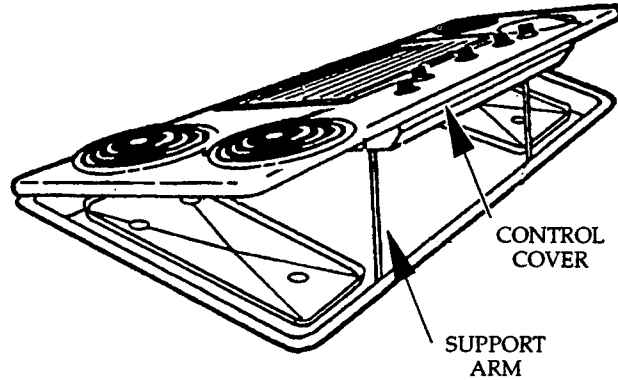

FIGURE 4-5
2. Raise the front of the maintop and swing the bracket arm forward so that it rests against the front of the rough-in box (see Figure 4-5).
3. Remove the two phillips screws from the control cover and remove the cover (see Figure 4-5 for the cover location).